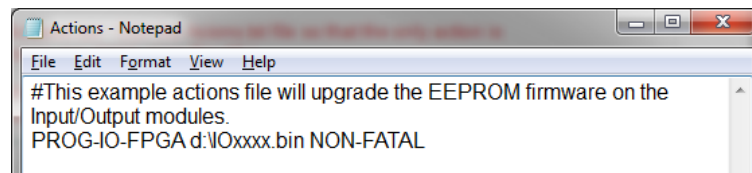

Fig 70. Example Actions.txt File to Update the Crosspoint Software
- **Actions.txt** - Edit the Actions.txt file so that the only action is PROG-IO-FPGA (see Fig 70.).